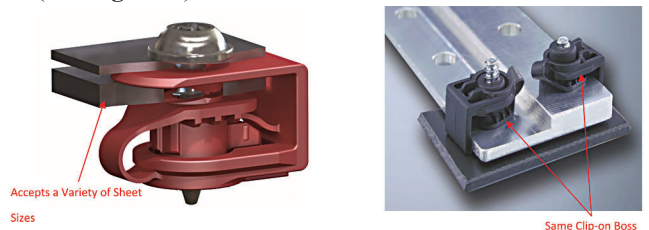

Fig. 5 — Plastic clip-on bosses can be molded with special and sophisticated variations.
- Molding technology has significantly advanced so that plastic clip-on bosses may be molded with unique and sophisticated variations that allow one part to work for a variety of sheet or panel thicknesses. Although not all plastic clip-on bosses have this functionality and there may be some differences between different brands and models, they all basically have a spring-loaded feature that allows the clip-on boss to be assembled to accommodate different size sheet and panel thicknesses. This provides a simplification factor that is generally appreciated by design engineers seeking assembly flexibility (see Figure 5).